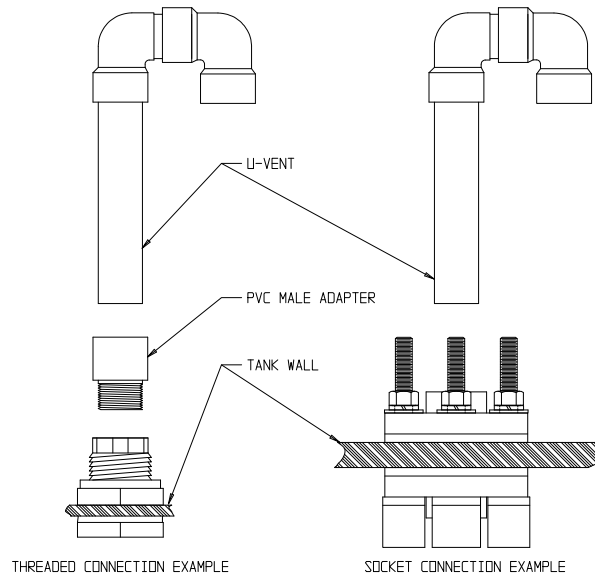

Figure 7.1
7.1.2 When installing the u-vent in a solvent weld socket fitting, solvent weld the u-vent with the proper solvent cement in the desired position into a previously installed fitting. If the u-vent is to be used in a threaded fitting, solvent weld the male adapter provided to the u-vent and install the u-vent assembly into a previously installed threaded fitting. Refer to Figure 7.1 for an exploded illustration of this assembly.